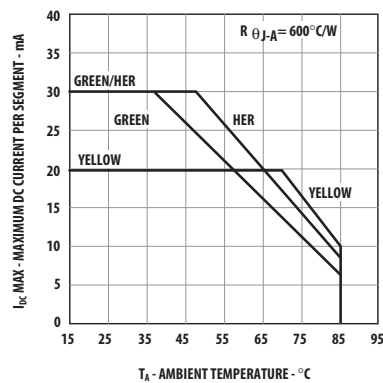

Figure 9. Maximum Allowable DC Current vs. Ambient Temperature.  $T_{JMAX} = 100^{\circ}$ C.
6. Derate maximum DC current for HER above  $T_A = 48^\circ\text{C}$  at 0.58 mA/°C, Yellow above  $T_A = 70^\circ\text{C}$  at 0.66 mA/°C, and Green above  $T_A = 37^\circ\text{C}$  at 0.48 mA/°C. See Figure 9.